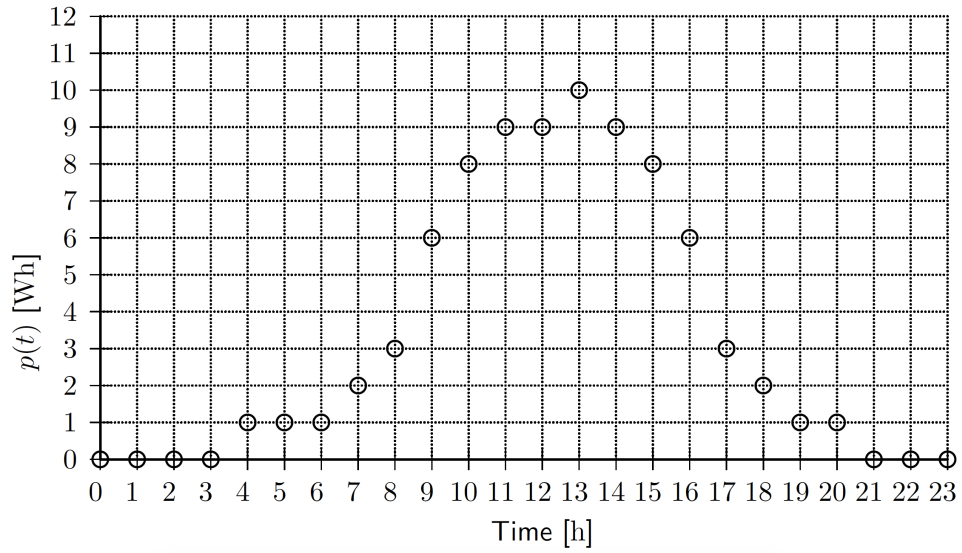

Figure 5: Application Control, Task (b)
- (b) (8 points) Suppose now that $B = 33 \text{ Wh}$. The harvested energy function $p(t)$ is given in Figure 5. Determine an optimal energy usage function $u^*(t)$ that maximizes the utility and never leads to failure state. Draw $u^*(t)$ into Fig. 5.